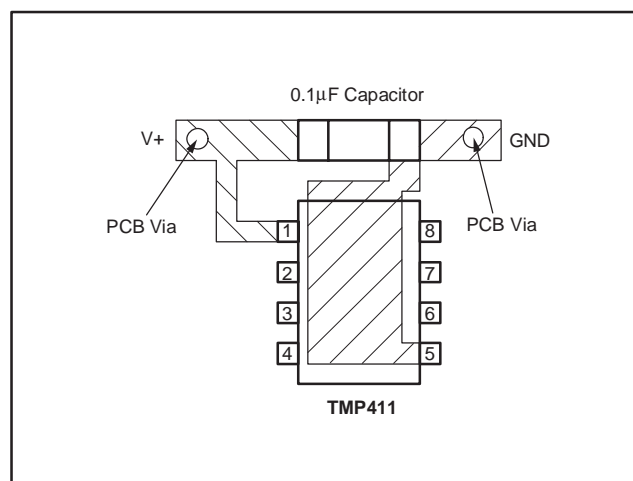

Figure 20. Suggested Bypass Capacitor Placement
4. Use a 0.1 μ F local bypass capacitor directly between the V+ and GND of the TMP411, as shown in Figure 20. Minimize filter capacitance between D+ and D– to 1000pF or less for optimum measurement performance. This capacitance includes any cable capacitance between the remote temperature sensor and TMP411.